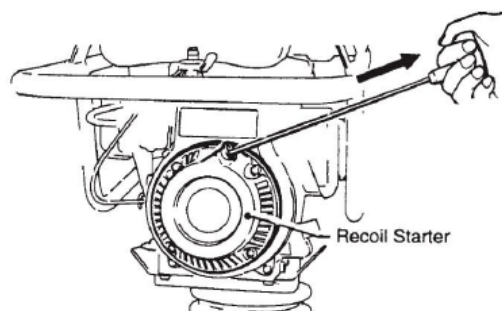

Figure 8 Recoil Starter
4. Grip the recoil starter (Figure 8) handle and pull it until you feel a slight resistance. Then pull sharply and quickly. Return the recoil starter handle to the starter case before releasing.